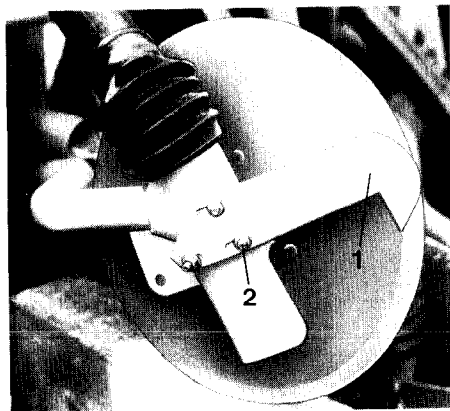

Fig. 28
7.4 Resetting the roll-coulter scrapers (Fig. 28/1, 29/1)
After extensive use of the roll coulter, wear can take place at the scrapers. Adjust the scraper by means of the screw (Fig. 28/2, 29/2) until the scraper once more just comes into contact with the coulter.